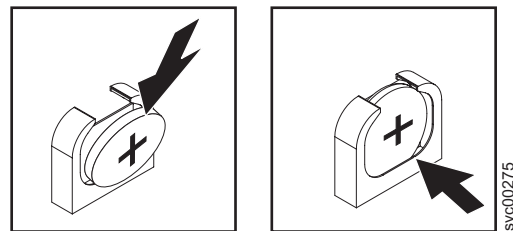

Figure 115. SAN Volume Controller 2145-8G4 CMOS battery holder
- b. Press the battery down into the socket until it clicks into place. Make sure that the battery clip holds the battery securely, as shown in Figure 115.